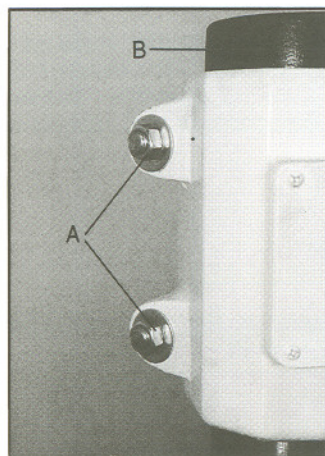

Fig. 5
3. Loosen two nuts (A, Fig. 5) on the head assembly.
4. Raise the head by raising the table. The head is at the correct height when the top of the head is just below the column cap (B, Fig. 5).
5. Tighten the two nuts (A, Fig. 5) on the head assembly firmly.
1. Make sure both head assembly nuts (A, Fig. 5) are tight.